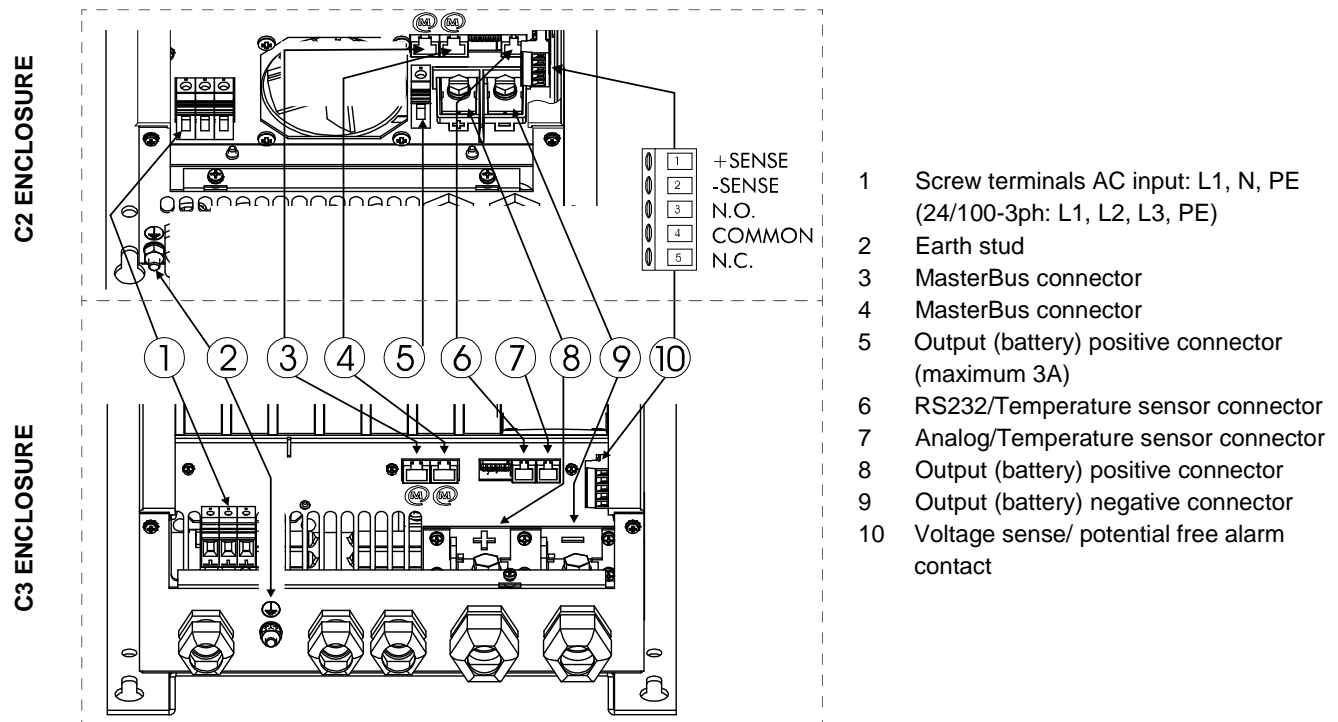
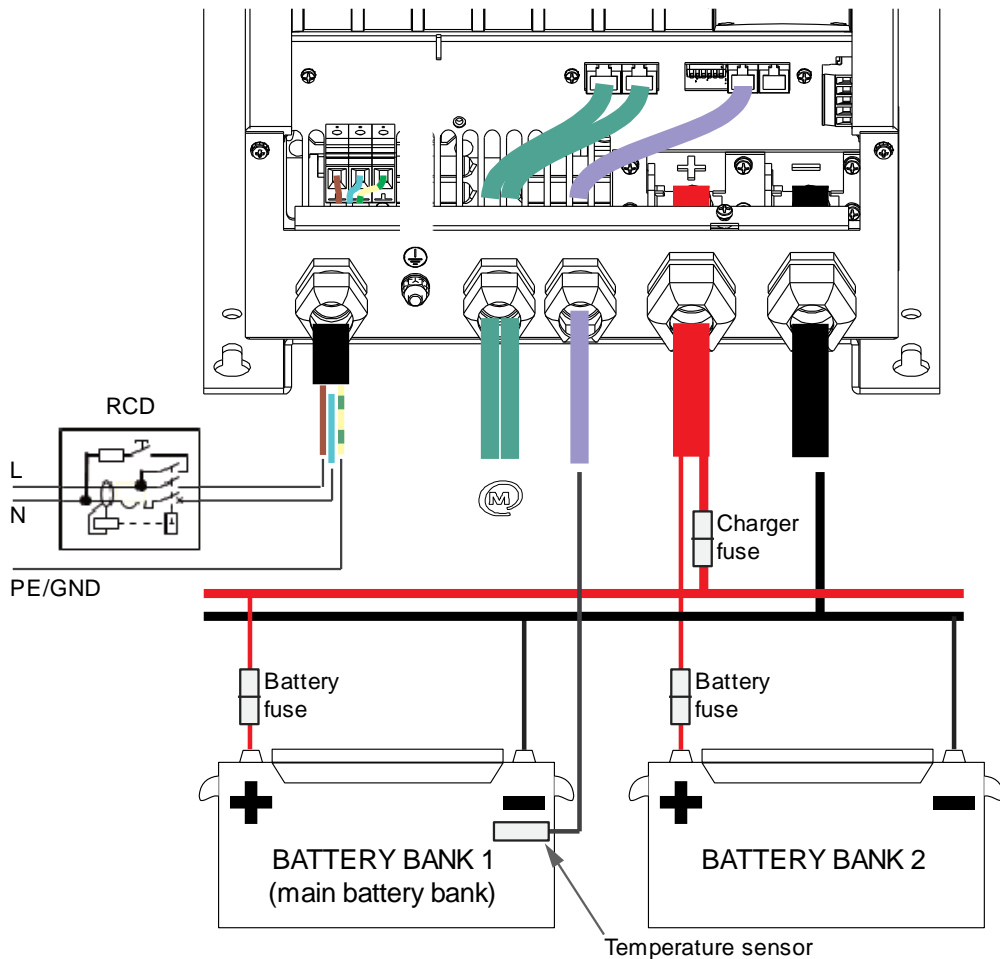

Figure 4. Overview connections Mass Charger
Figure 5. Installation drawing of the Mass Charger
- Connect the plus of the second battery to the +3A terminal of the Mass Charger (Figure 4 and Figure 5).
3. Plug the modular cable into the terminal at the right of the Mass Charger (see Figure 4 on page 10). For the C3 enclosure (refer to specifications) both "RS232" and "analog" are suitable.
2. Connect the wires with the two upper terminals of the green connector at the right side of the cabinet (see Figure 4 on page 10). Pay extra attention to the polarity of the wires, red on +S and black on -S.
To control external equipment, the charger is equipped with a potential free contacts alarm relay; see Figure 4 on page 10. The alarm function has two modes: standard (factory setting) and DC alarm mode (continuous mode). The maximum switch current of the relay is 1A. Exceeding the setpoints will activate the alarm (see page 17).
- 2mm flat blade screw driver for the sense terminal (see Figure 4, point 10).
Plug the temperature sensor cable into the "Temp.Sensor" jack. See also Figure 4 on page 10.